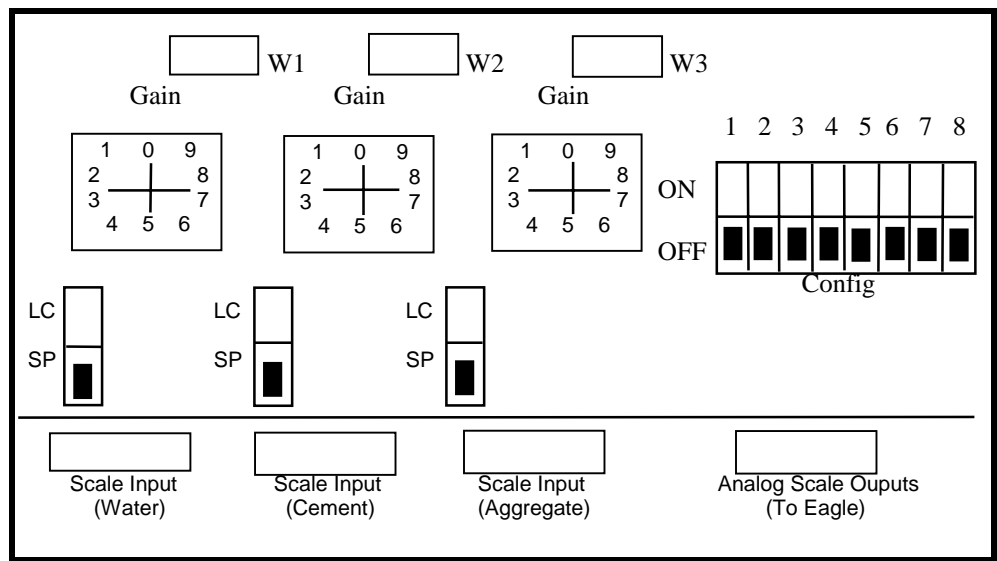

Figure 2- Calibration Controls (as viewed from rear of display unit). Shown set up for scale pots with Gain pointing to zero (0).
2. Open the rear door of the enclosure for access to the printed circuit board as shown in Figure 2.
3. Each of the 3 scale channels uses a slide switch to select the use of either load cells (LC) or scale pots (SP). Move this switch to the proper setting (up for load cells or down for scale pots). Refer to Figure 2.
For load cells, the knob should be initially set to position 1. On the side of the rotary switch housing there is a mark that points to the number setting on the knob. Refer to Figure 2 below. Additional gain adjustment is provided by jumpers W1, W2, W3, one for each of the respective scales. When the jumper is installed, the gain is reduced by 1/3 (one-third). This allows for more precise gain adjustment when using load cells.
The CONFIG DIP switch as shown in Figure 2 controls various functions. There is an entry in the diagnostic area that allows the user to view the switch settings from the front panel display. This is needed when the back cover plate is sealed or otherwise inaccessible.